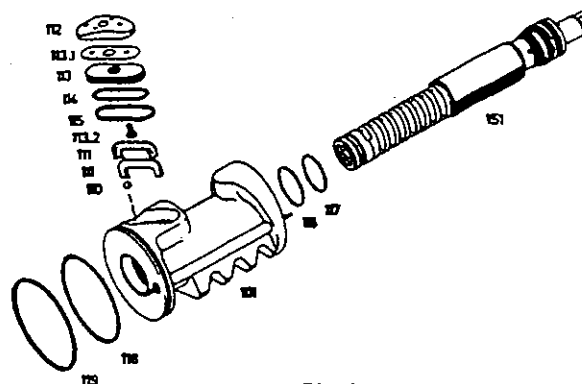

Fig.11
- 7.2 Remove gasket/plug (112) complete with compensating plate (113.1), gasket (113), sealing elements (114 and 115), pin (113.2) and recirculating half tubes (111) (*Fig.11*).